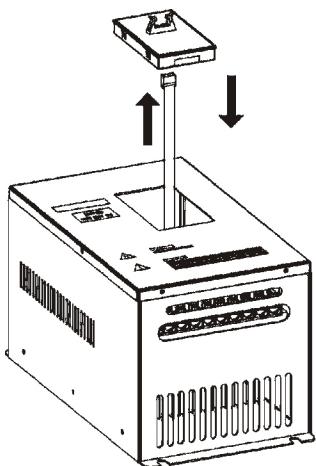

Fig. 3-13 Mounting Diagram of the operator panel and connecting wire of the inverter Model B
Step 3. Plug the connecting wires of the control panel and operator panel into the jack panel provided in the optional components. Put on the upper cover of the inverter, and then fix the jack panel in the installing location of operator panel (as shown in Figure 3-13).